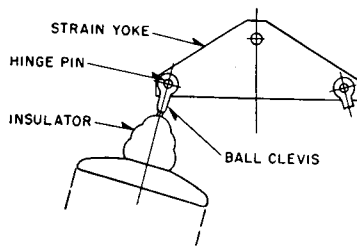

FIG. 1. STRAIN YOKE ASSEMBLY
The entire arrester structure is suspended by suspension insulators attached to the tower by means of a steel strain yoke as shown in Fig. 1. The structure may be suspended without the strain yoke by attaching the two insulator strings to the tower by the ball clevis fittings. The components of the arrester assembly are connected by universal joints. The universal joints permit the entire assembly to sway in any direction without placing stress on the arrester units.
1. The arrester should be assembled from the top down. Start with the steel strain yoke (See Fig. 1). The parts of the assembly can be raised by lifting equipment as they are needed.
2. Attach the suspension insulator strings to the steel yoke by means of the ball clevis fittings (Fig. 1).
FIGS. 1 through 5. Sequence of Assembly Operations for Erection.